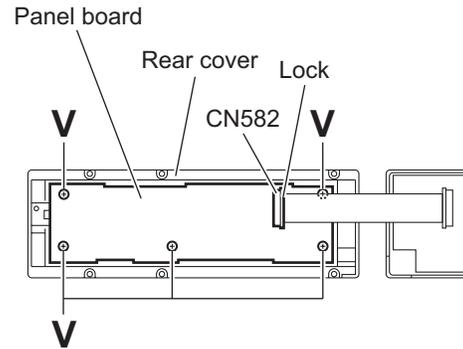

Fig.21
- From the inside of the rear cover, release the lock of the connector CN582 on the panel board and disconnect the card wire. (See Fig.21.)
- Remove the five screws **V** attaching the panel board and take out the panel board from the rear cover. (See Fig.21.)